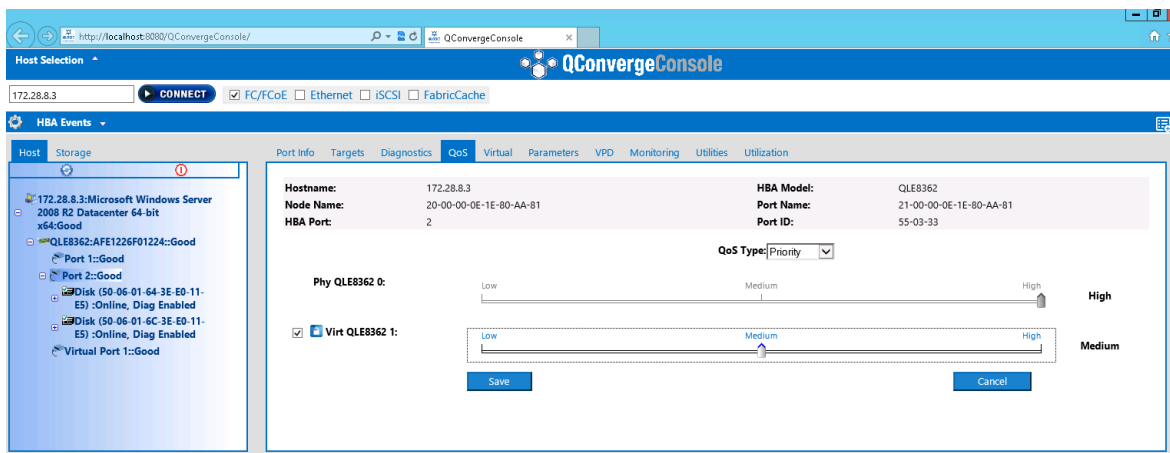

Figure 3-38. Changing vPort Priority using QConvergeConsole GUI
9. Click **Save**. Figure 3-38 shows an example.